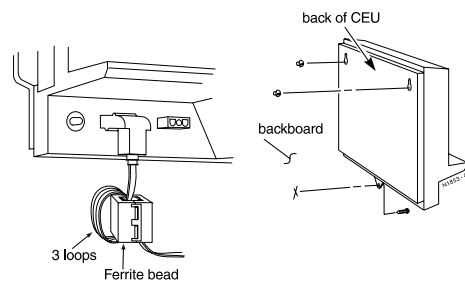

FIGURE 3
2. Plug in the power supply CEU power cord into the **MAIN POWER** connector on the CEU. See Figure 3.